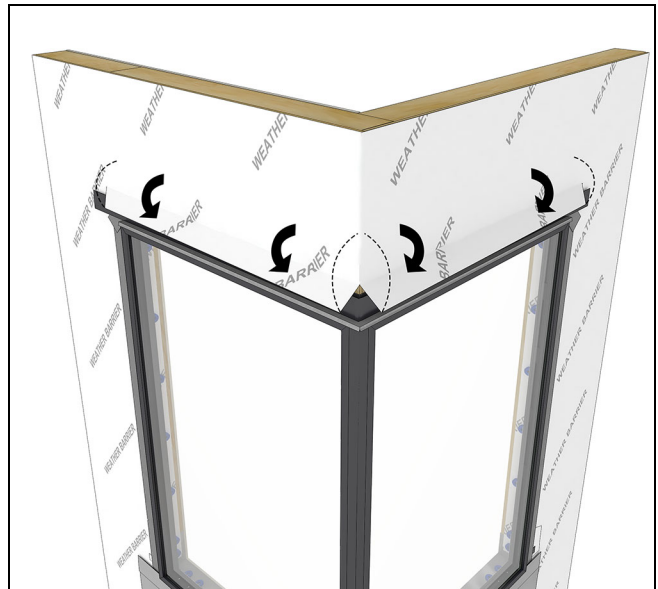

Figure 78
13. Fold the head jamb air barrier down over the flashing. Tape and seal the top corner. See Figure 78